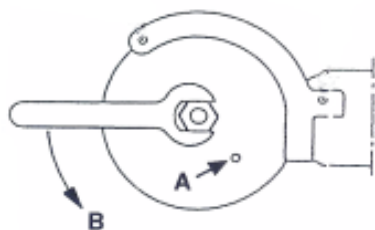

Figure 3: Loosening the saw blade
- Insert the retention pin supplied into the saw blade bore (A) as a twist lock and turn the saw blade until the retention pin contacts the safety hood (see Fig. 3)
- Remove the hex. nut using the single-head wrench supplied - turn in anti-clockwise direction (arrow B). (see Fig. 3)